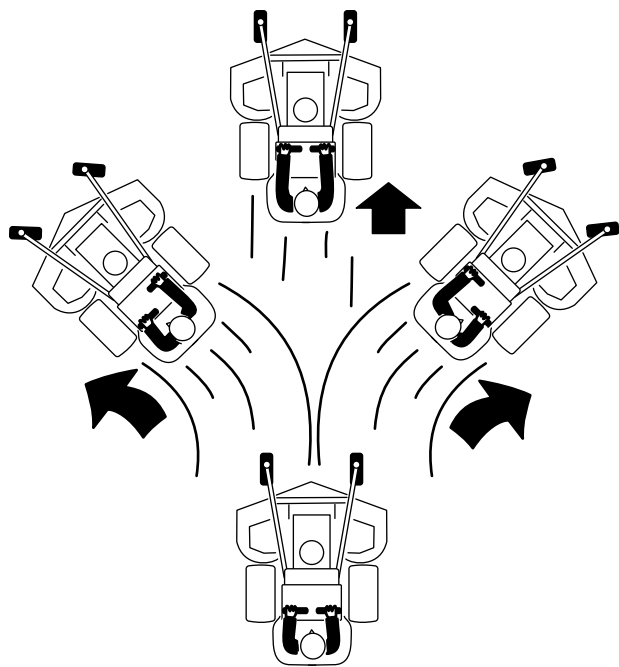

Figure 20
3. Slowly push the motion-control levers forward (Figure 20).